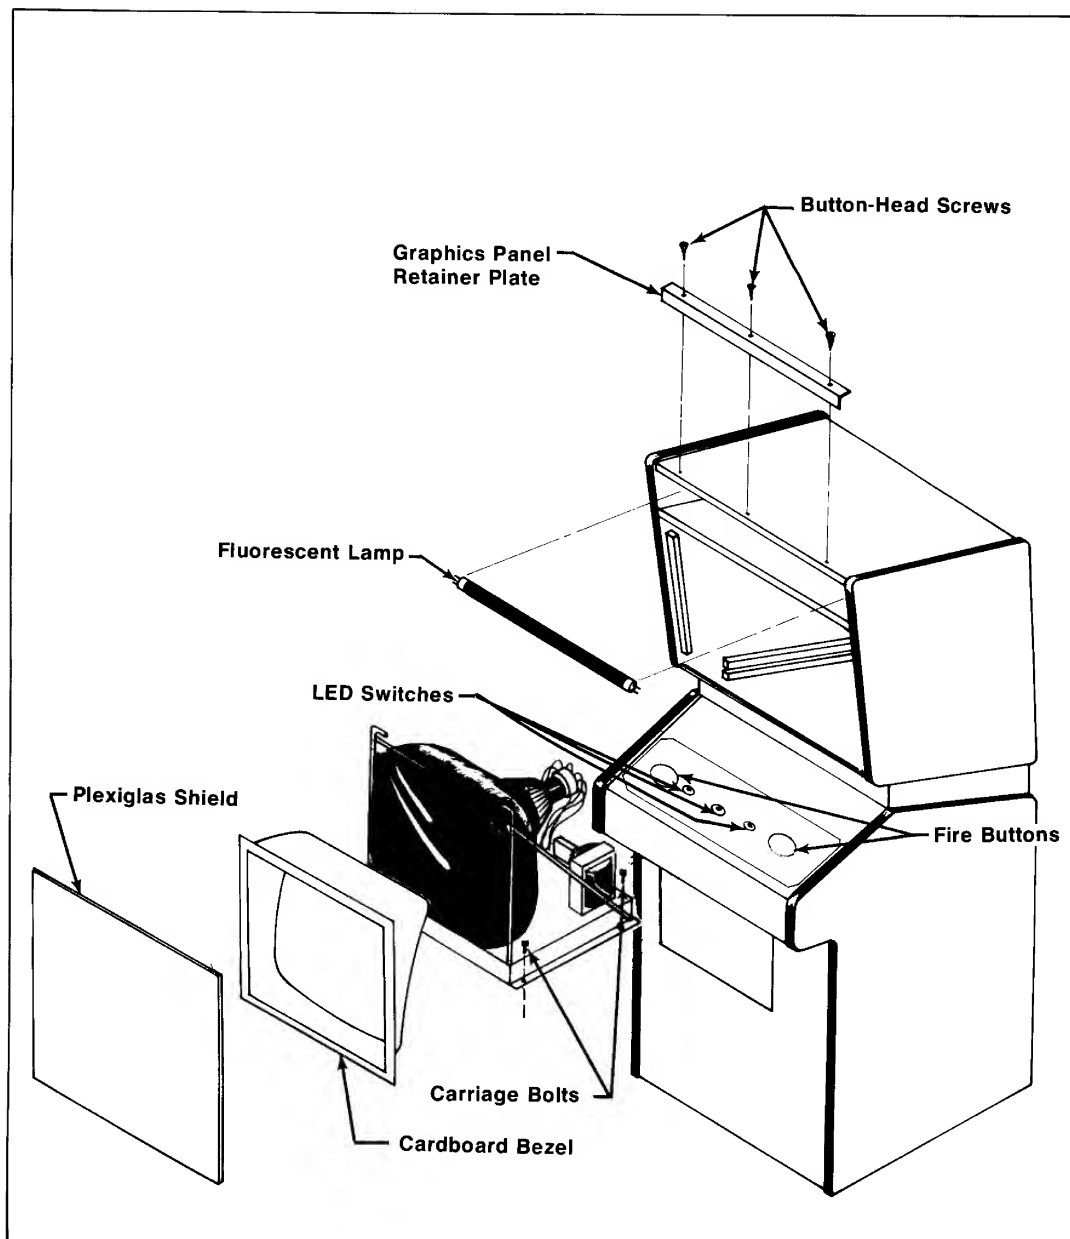

Figure 3-10 Lamp and TV Monitor Removal
Procedure (Refer to Figure 3-10)
E. TV MONITOR REMOVAL (Refer to Figure 3-10)